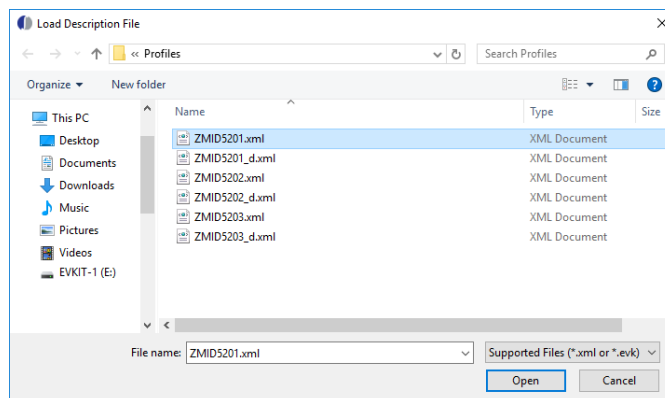

Figure 46. File Dialog to Select an Identification File
3. In the resulting common file dialog, select the proper identification file based on the type of ZMID4200 Application Module, and click “Open.” The identification files can be found in the root directory in the *Profiles* folder (see Figure 46). Filenames with the suffix “_d” are used if two application modules are connected.